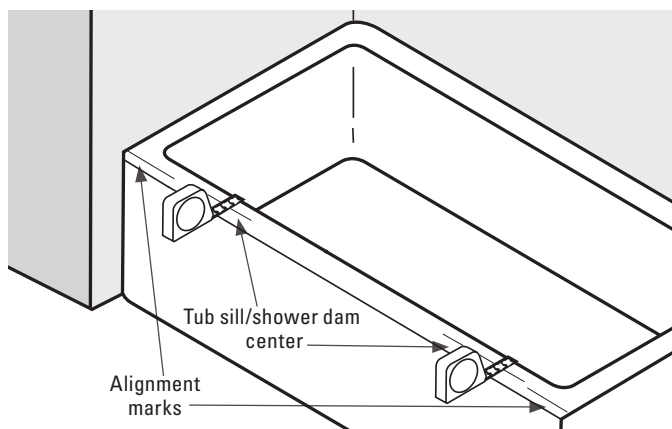

Figure 2
B. Using the tape measure, find the center of the tub sill/shower dam (See **Figure 2**). Make a mark where the center is, and add 1" to this mark. Place a new mark on the front of tub sill/shower dam on both the right and left sides.
E. Locate the Panel Glide Strip (See **Figure 2**). Using the wire cutters, cut it 3/4" shorter than the Curb. Re-install the Panel Glide Strip into the Curb so that the ends of Panel Glide Strip are evenly spaced at each end of the Curb.
F. Cut two pieces of painter's tape 12" long. Next, use the caulking gun and apply a thick bead of silicone sealant (approximately 3/8" in diameter) to the bottom surface of the Curb as indicated in **Figure 2**. Position the Curb on the tub sill/shower dam. Use the two strips of painter's tape to temporarily secure the Curb in place. DO NOT place the tape within 2" of the wall.